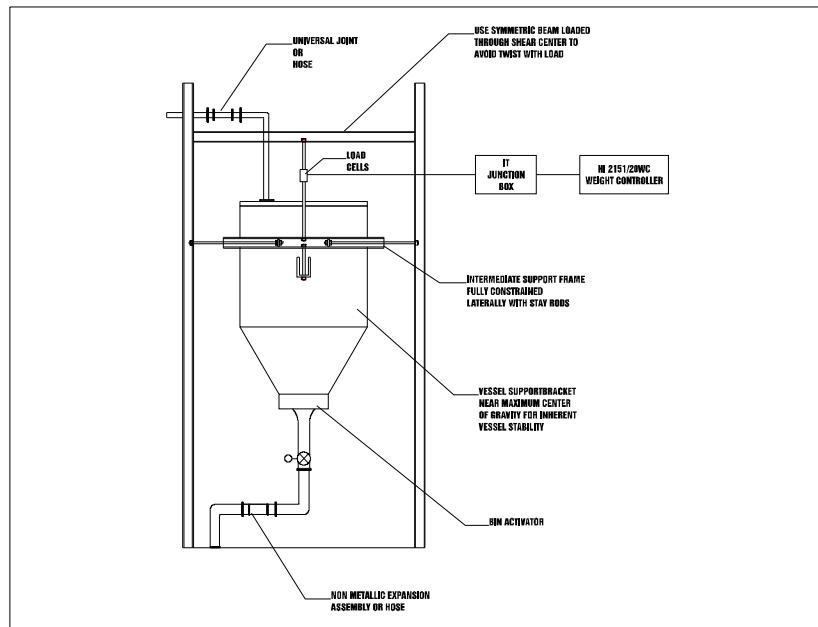

FIG. 8-1 TYPICAL LOAD CELL SYSTEM
1. The typical system consists of one or more load cells/points, a summing junction box, and a weight controller (the HI 2151/30WC). (See Figure 8-1).